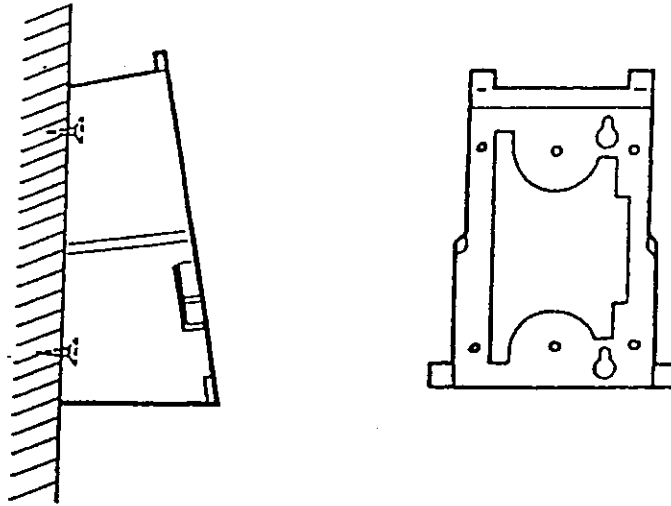

Figure 1-58 Mounting the WMU-W (GG) Unit to the Wall
4. Fasten the optional WMU-W (GG) Unit to the wall. (Refer to Figure 1-58 - Mounting the WMU-W (GG) Unit to the Wall.)